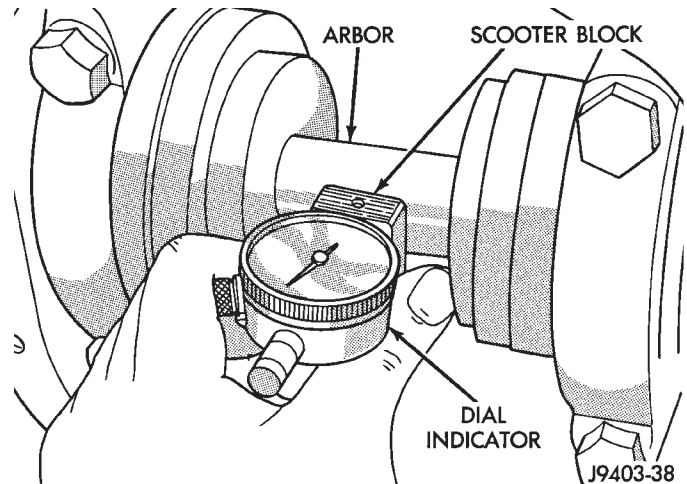

Fig. 59 Pinion Gear Depth Measurement—Typical
(7) With scooter block still in position against the pinion height block, slowly slide the dial indicator probe over the edge of the pinion height block.
(8) Slide the dial indicator probe across the gap between the pinion height block and the arbor bar with the scooter block against the pinion height block (Fig. 59). When the dial probe contacts the arbor bar, the dial pointer will turn clockwise. Bring dial pointer back to zero against the arbor bar, do not turn dial face. Continue moving the dial probe to the crest of the arbor bar and record the highest reading. If the dial indicator can not achieve the zero reading, the rear bearing cup or the pinion depth gauge set is not installed correctly.